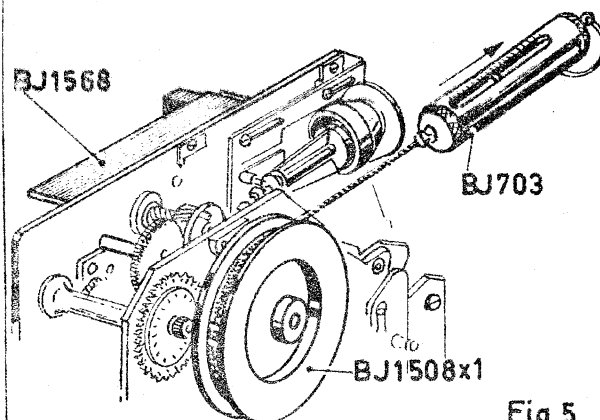

Fig. 5
5. Resistant torque of the mechanism (fig. 5)